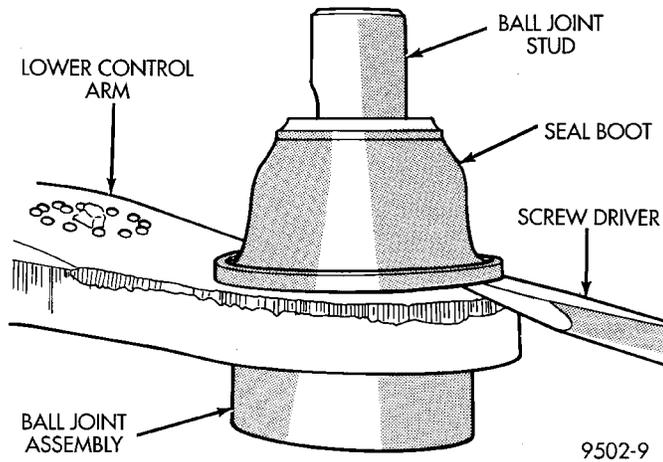

Fig. 67 Ball Joint Seal Boot Removal
(1) Using a screw driver or other suitable tool, pry seal boot off of ball joint assembly (Fig. 67).